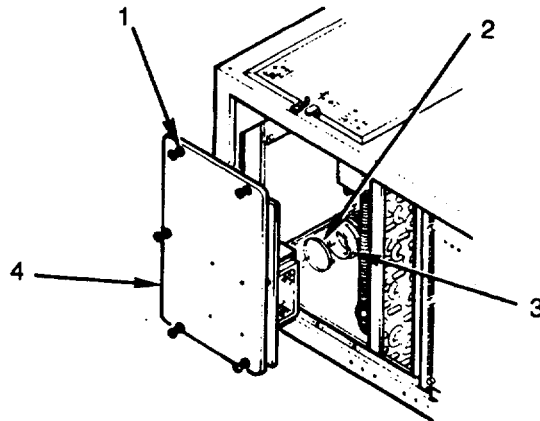

Figure 4-4. Left Front Evaporator Panel Removal
- b. Remove Left Front Evaporator Panel. Loosen five captive fasteners (1), loosen clamp (2), disconnect hose (3), and remove panel (4) (see Figure 4-4).